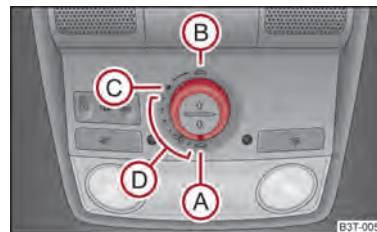

Fig. 31 Control dial for the panoramic sliding roof
The panoramic sliding roof with sun screen can only be operated with the control dial when the ignition is switched on ⇒ fig. 31. The control dial has several positions.
- Turn the switch to position **C** ⇒ fig. 31.
- Turn the switch to position **A** ⇒ fig. 31.